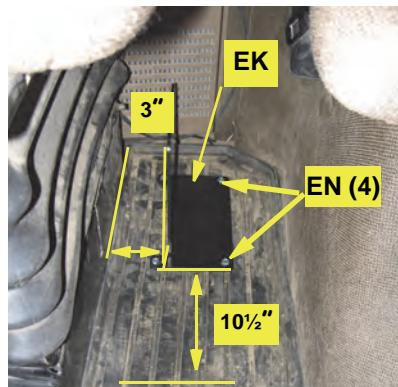

Figure 1b: ECU bracket installation
- Facing the one inch tabs of bracket **EK** toward the driver's seat, align the bracket parallel to the machine's seat frame. The bracket should be 3" from side of the seat frame and 10½" from the front edge of the seat frame (Figure 1b).